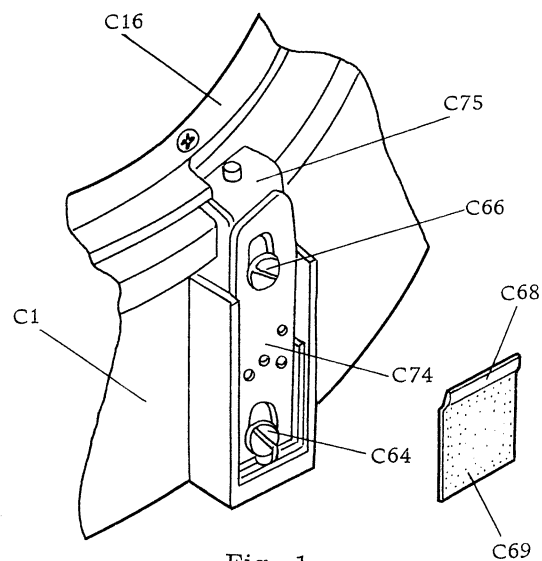

Fig. 1
- a. Remove the cover (C68), two screws, and button (C67). Lightly depress the lock lever (C75) and release lever (C74) with head of a screw driver, and make sure that the levers are smoothly operated by spring force. (Fig. 1)